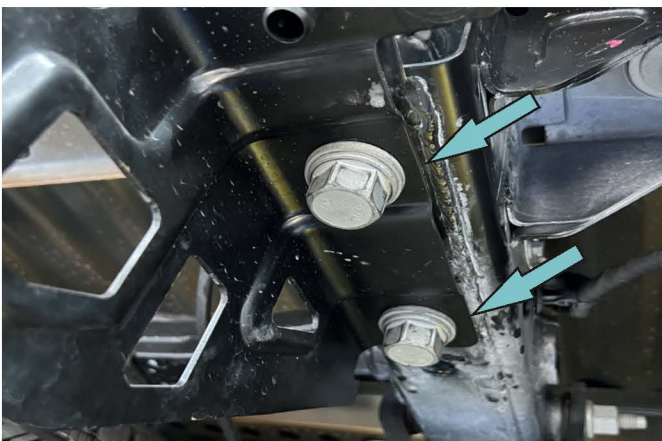

Fig. 5
5. Unscrew OE bumper bracket fixation bolts on both sides of the vehicles (Fig. 5).